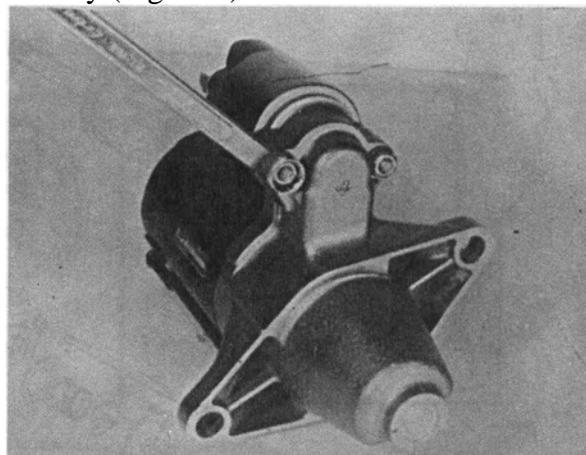

Fig. 9-11
- (2) Remove magnetic switch assembly (Fig.9-11).